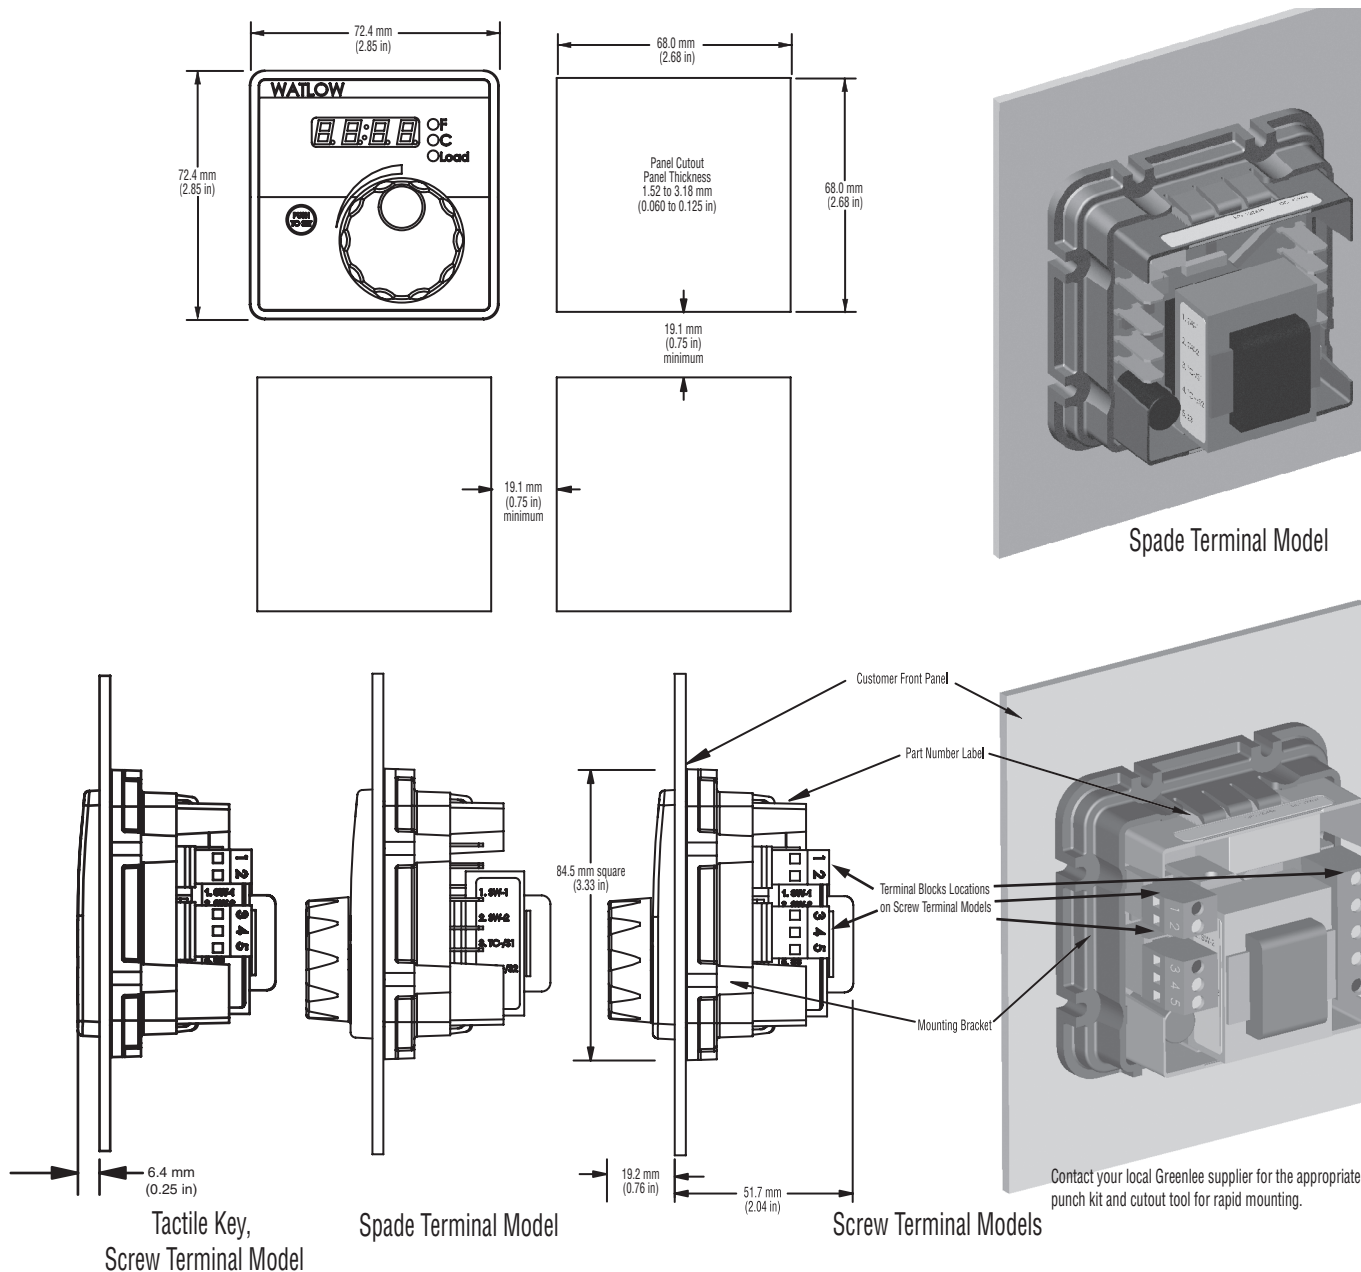

Figure 4
4. While pressing the front of the case firmly against the panel, slide the mounting collar over the back of the panel. The tabs on the collar must line up with the mounting ridges on the case for secure installation. See Figure 4. Slide the collar firmly against the back of the panel, getting it as tight as possible. To ensure a tight seal, use your thumb to lock the tabs into place while pressing the case from side to side. Don't be afraid to apply enough pressure to install the controller. The tabs on each side of the collar have teeth that latch into the ridges. Each tooth is staggered at a different height, so only one of the tabs on each side are ever locked into the ridges at a time. Confirm that the tabs on one side of the collar correspond with those on the opposite side. Make sure the two corresponding tabs are the only ones locked in the ridges at the same time. If the corresponding tabs are not supporting the case at the same time, you will not have a NEMA 4X seal.